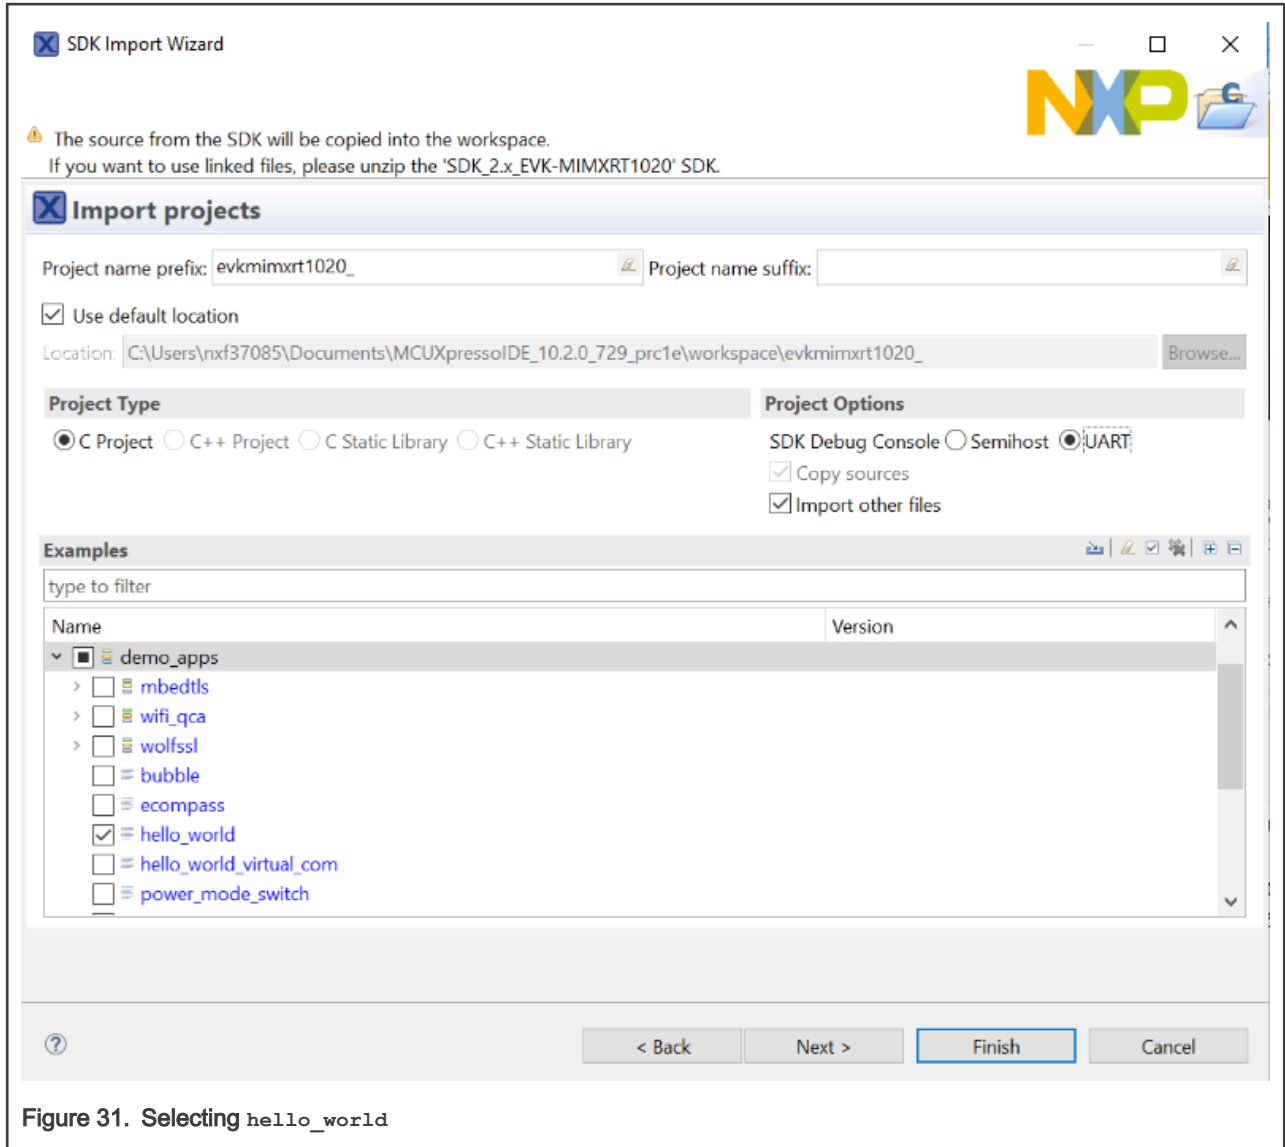

Figure 31. Selecting hello\_world
- Expand the `demo_apps` folder, select `hello_world`, and then click **Next**, as shown in Figure 31.